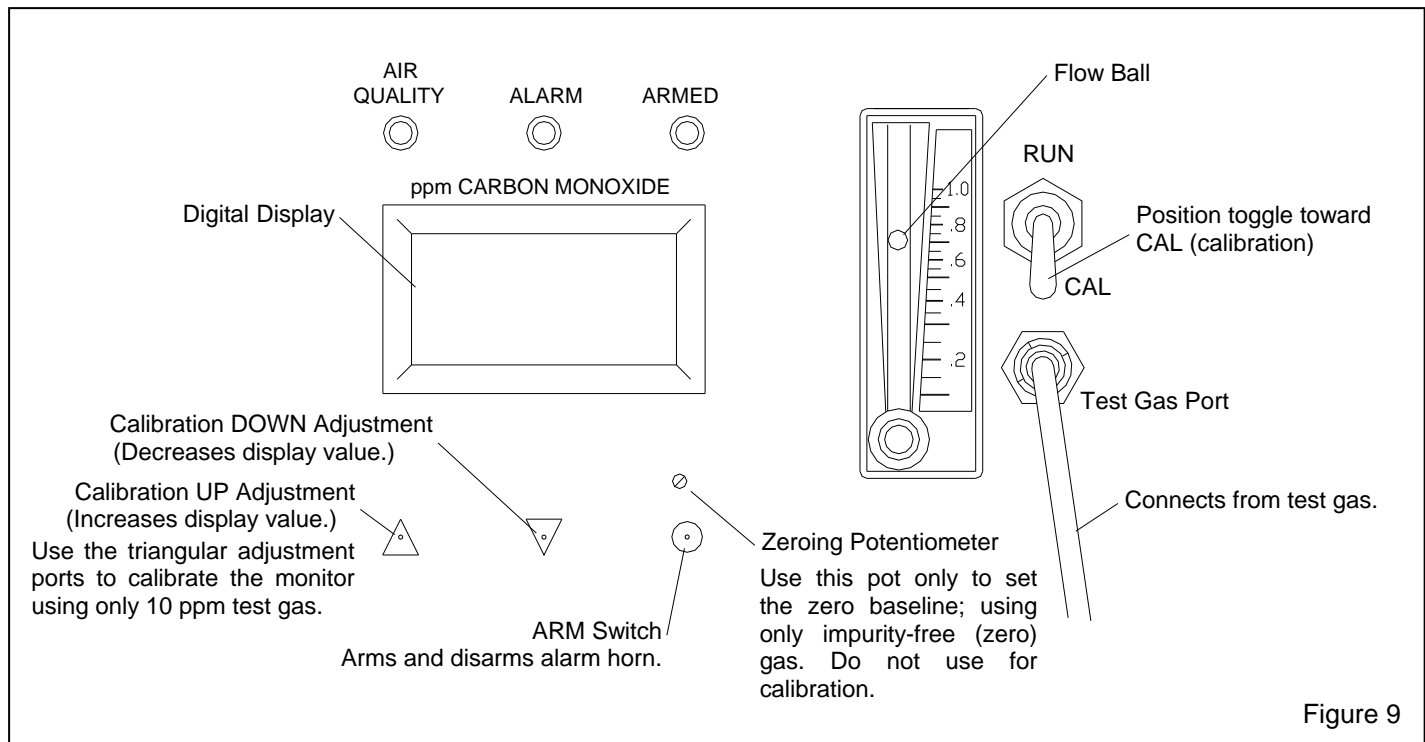

Figure 9
4.5.1 Open the instrument case cover to access the faceplate. Refer to Figure 9 for faceplate-calibration and testing callouts.
5.2 Open the instrument case cover to access the faceplate. Refer to Figure 9 for callouts.